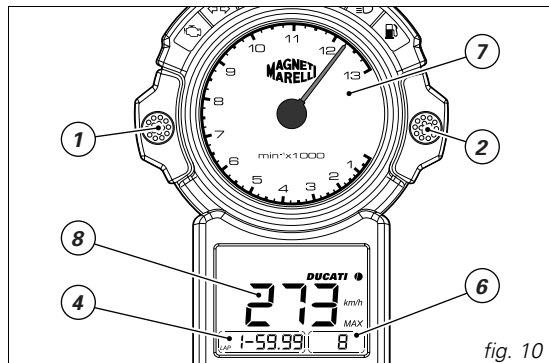
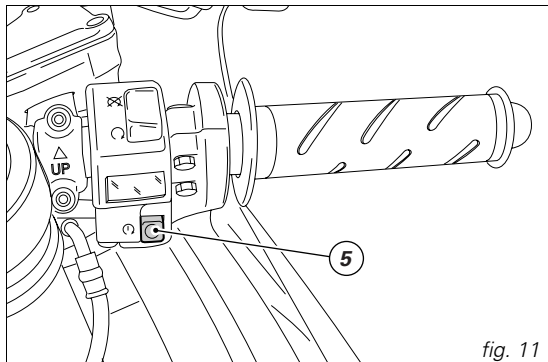

fig. 10
fig. 11
This function lets you record lap time and displays top speed and engine rpm during that lap. Select LAP indication in the display (4, fig. 10). Press the engine start button (5, fig. 11) while riding to start the on-board chronometer. When button (5) is pressed again, the chronometer will stop and at the same time will start the on-board chronometer to read the 2nd time. It is possible to save up to a maximum of 19 laps; if you save a higher number of laps, the first ones saved will be lost (the "last" 19 laps are saved in the memory).
After measuring lap times, up to 19 times may be retrieved and displayed on the LCD. After switching the bike off, press button (2, fig. 10) and turn the key from OFF to ON in order to access the function.
- Lap number (6);
- Top engine rpm (7, fig. 10) during selected lap;
- Lap time (4, fig. 10);
- Top speed (8, fig. 10) during that lap.
To wipe off recorded lap times, hold down the (2, fig. 10) button for over 5 seconds.
1) If the code is recognised, the code light (12, fig. 5) on the instrument panel will flash briefly. This means that the immobilizer system has recognised the key code and enabled engine ignition. When you press the START (5, fig. 11) button, the engine will start up.